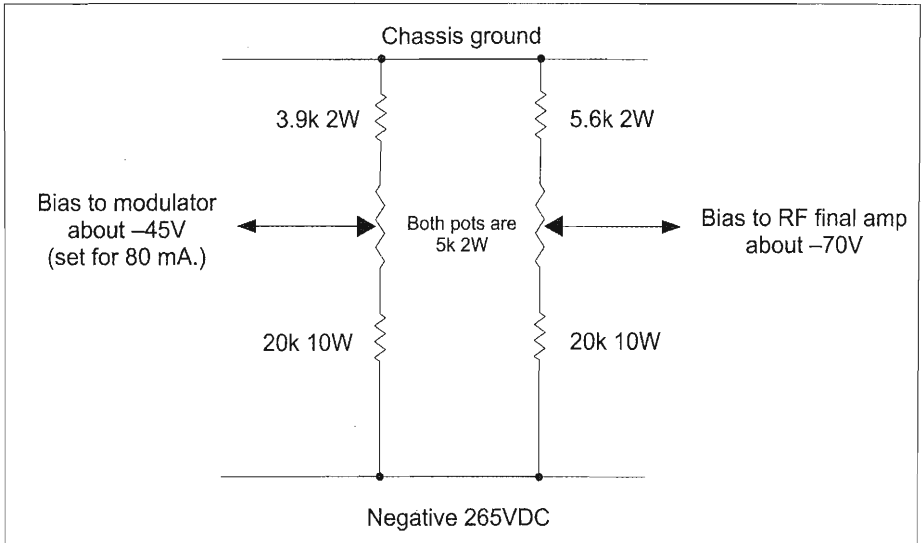

Figure 4: Bias adjust circuit changes.
**Figure 4** shows changes to the bias adjustment circuitry. These changes were made to make it easier to set the bias voltages by having the pots operate in the center of their ranges.